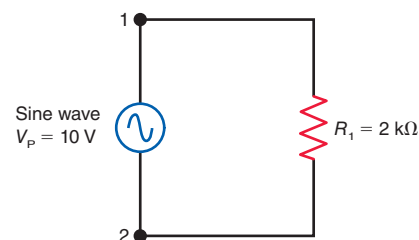

Figure 14-30
- 14.7 In Fig. 14-30, the sine wave of applied voltage has a peak or maximum value of 10 V, as shown. Calculate the instantaneous value of current for the phase angles listed.
- 14.8 In Fig. 14-30, do electrons flow clockwise or counterclockwise in the circuit during